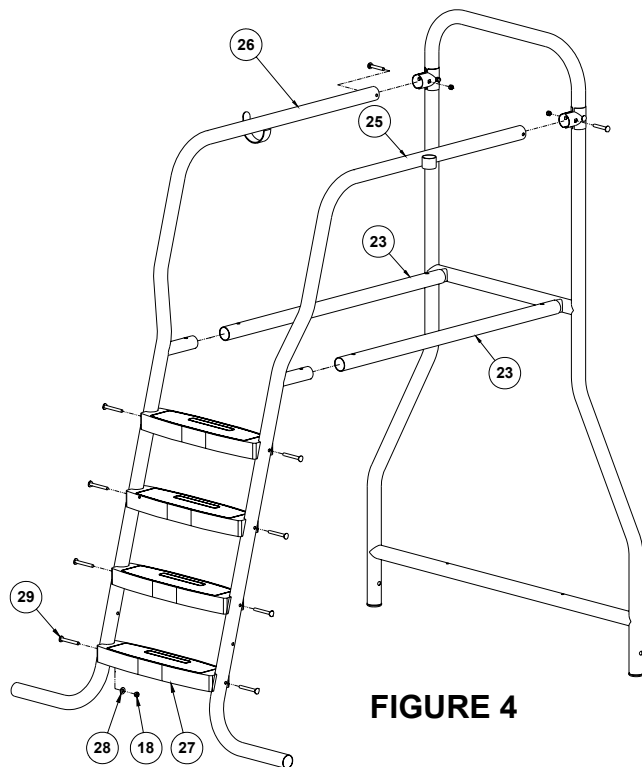

FIGURE 4
Stand rear frame up and attach both front rails by inserting the top into the split tees already on the rear frame and the stainless inserts into the front cross tubes. See **FIGURE 4**
2. Attach the four 15° white steps using the supplied pre-packaged hardware. Each step is fastened using (2) 3/8" Cradle head bolts, 3/8" flat washers, and 3/8" hex nuts. See **FIGURE 4**.